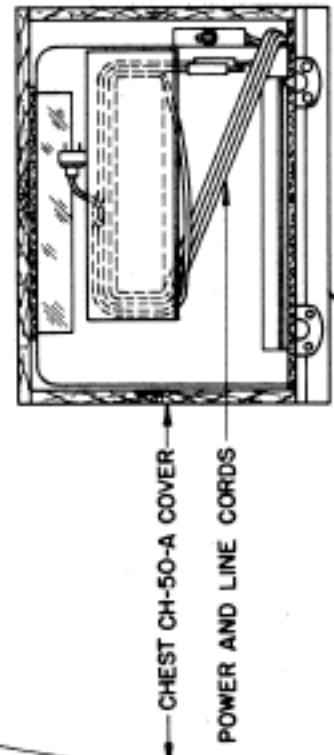

FIGURE 2.
1. SET CHEST CH-50-A BASE ON CHEST CH-50-A COVER AS SHOWN IN FIGURE 2.